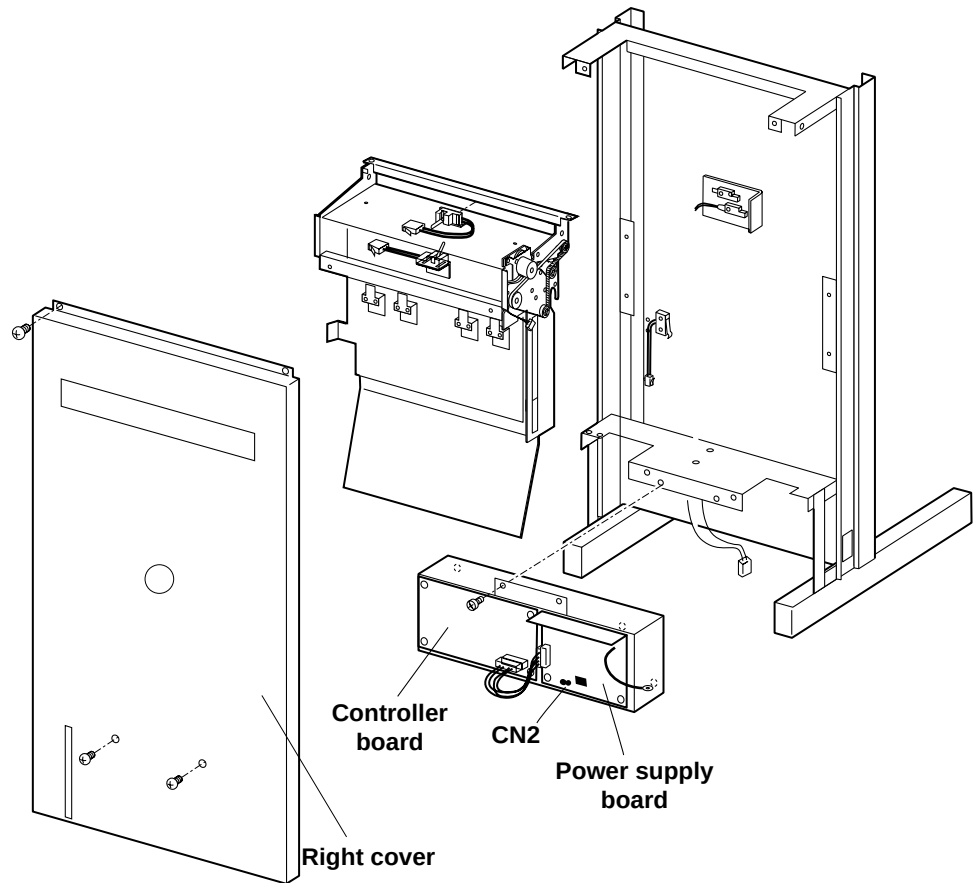

Figure C-2 Stand-Alone Preliminary Setup Part Location
- Step 6** Place a jumper between the two pins marked as CN2 located near the bottom edge of the HCO Power Supply board (see Figure C-2).